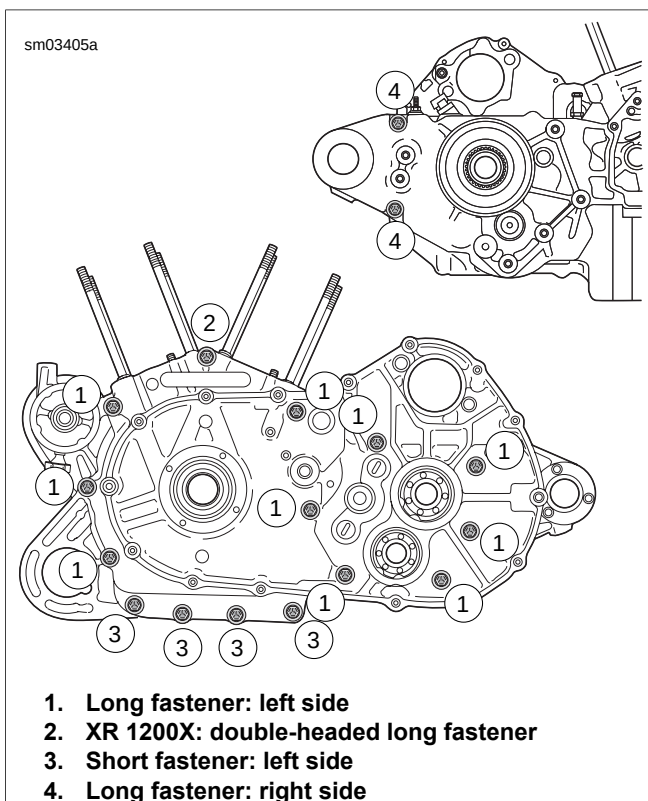

Figure 3-110. Crankcase Fasteners
**XR 1200X:** See Figure 3-110. The fastener between the cylinders is a double headed bolt (2).
4. Remove 11 long fasteners (1, 2) and four short fasteners (3) from left side of crankcase assembly.
5. Remove two fasteners (4) from right side of crankcase assembly.